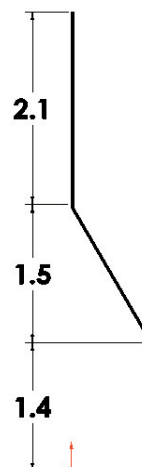

Fig. 3
Step 6. Add the dimensions as shown in **Fig. 3**. To Smart dimension click the line then move the cursor out away from the line and click. Key-in the dimension and press ENTER. Arrange the dimensions as **Fig. 3**.